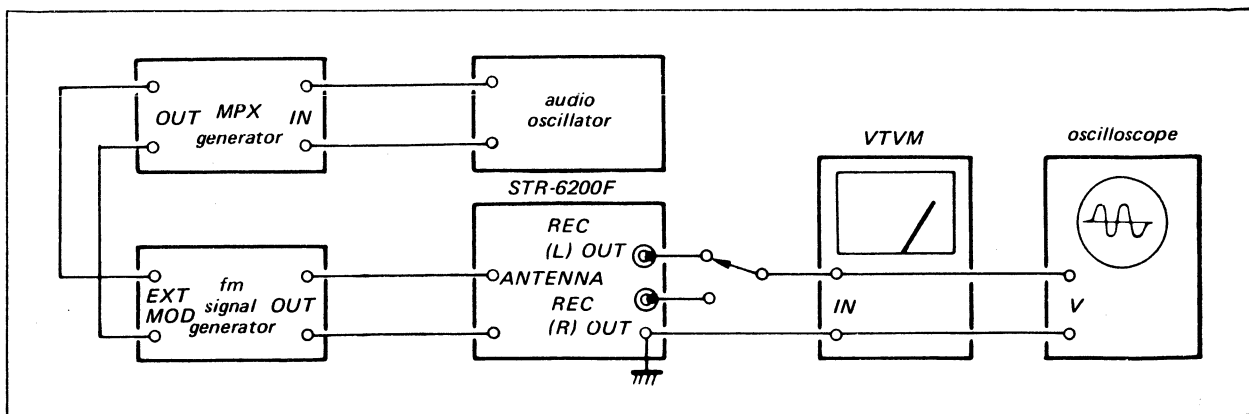

Fig. 3-9 Fm stereo separation adjustment test setup
1. Connect the equipment as shown in Fig. 3-9. Set the fm signal-generator's control as follows:
- (a) With the equipment connected as shown in Fig. 3-9 set the MPX stereo generator controls as follows: